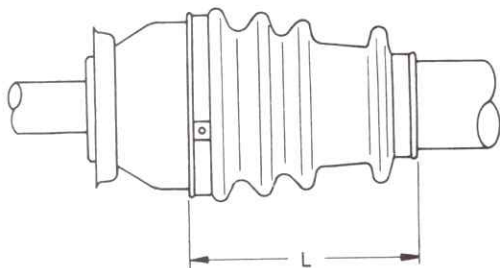

Fig. 8.5 Setting bellows length, outboard joint
- 9 Set the bellows length (Fig. 8.5) then fit the large securing band. Tighten both bands using pliers and a screwdriver, bend over the tabs then bend back the remaining end and cut off the excess (photos).